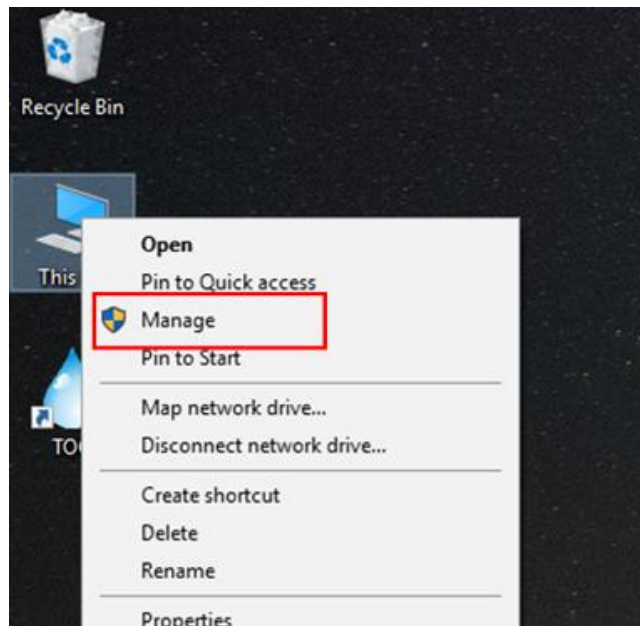

Fig. 3.32
2) Right click the shortcut icon 'This Computer' on the desktop, and select 'Manage' (Fig.3.32)